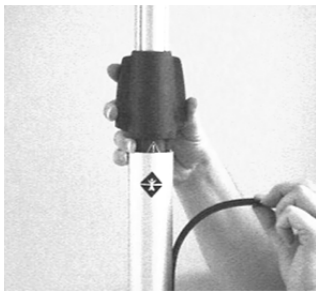

Figure 43
1. Remove plastic strips (see Figure 9 – item #12) from the sides of the posts. To remove, take one end of the strip and pull outward gently (see Figure 43).